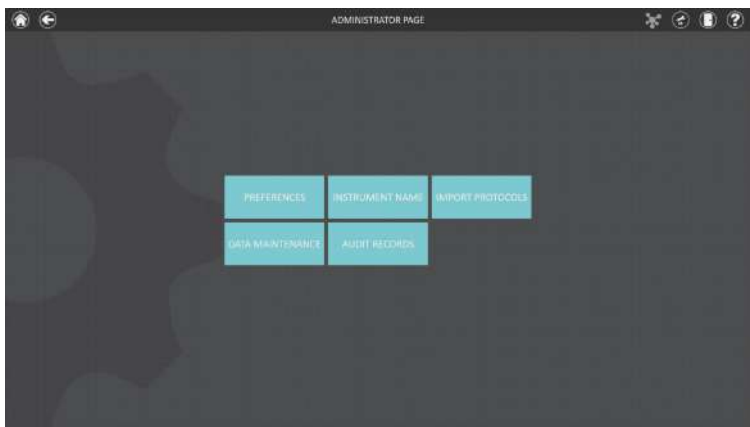

Figure 97. ‘Administrator Page’ screen.
2. On the ‘Settings’ screen, tap the **Administrator** button to open the ‘Administrator Page’ screen (Figure 97). This button is only visible if the current user has administrator-level access to the GloMax[®] Software.